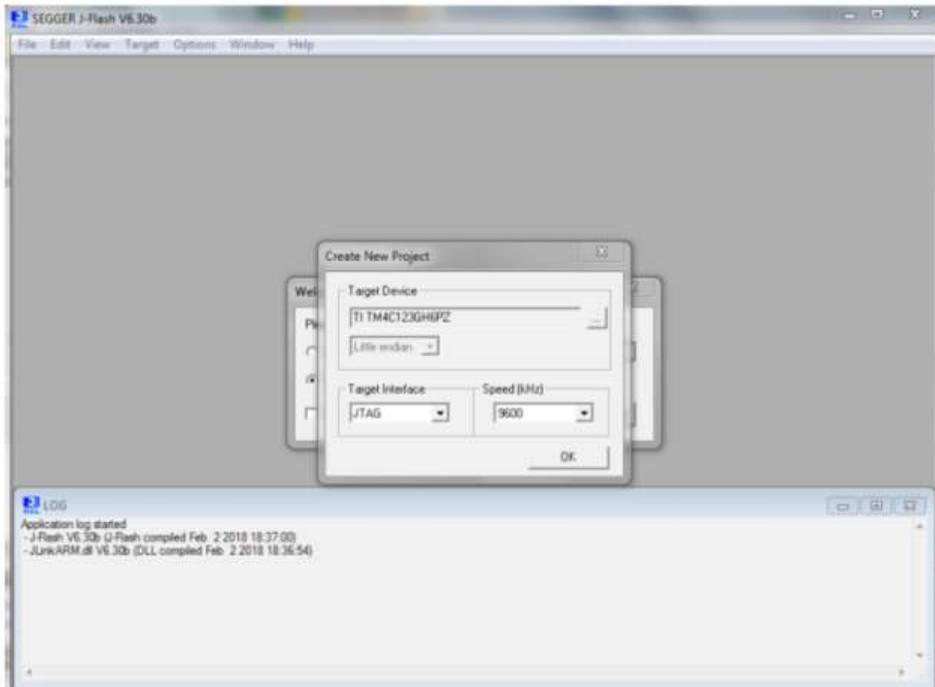

Figure 19: Create new project 1 [Project\_settings]
5. The pop-up “Create New Project” appears. Click the “Target Device” browse button “...” (Figure 19, STMA-69126);